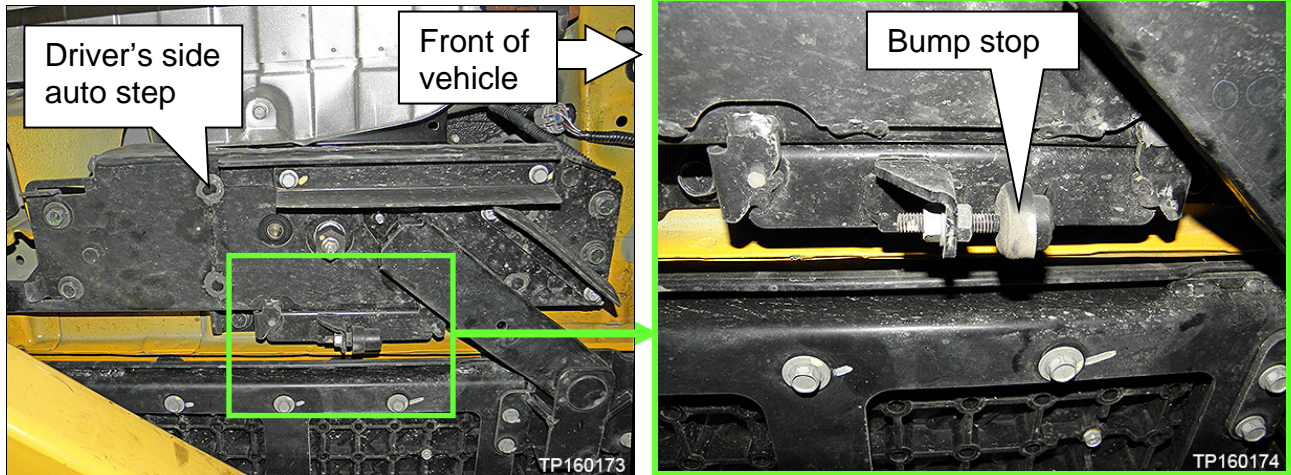

Figure 3
3. Remove the bump stop (Figure 3).